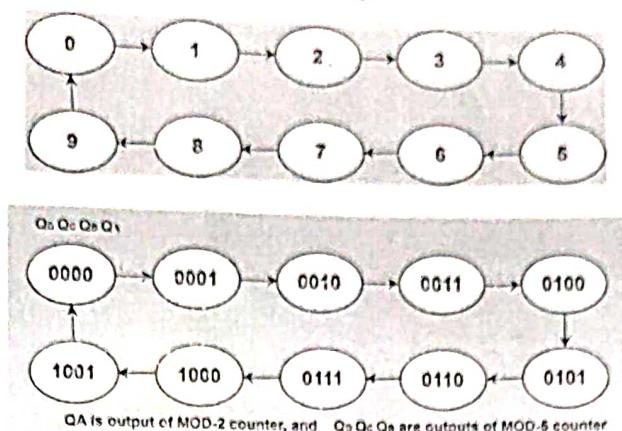

Figure 3: State diagram of MoD-10 Counter
1. IC 7490 BCD Decade Counter: It is a 14 pin IC, which can output the binary numbers from 0000 to 1001. After 1001 it gets resets and again starts counting from zero, as shown in Figure 3 & 4. Since, IC 7490 gets reset after counting ten numbers, it is called MOD-10 or Decade Counter. This IC takes 10 clock pulses to generates BCD code corresponding to each clock pulse. The outputs QA, QB, QC and QD are four bits of the BCD code.